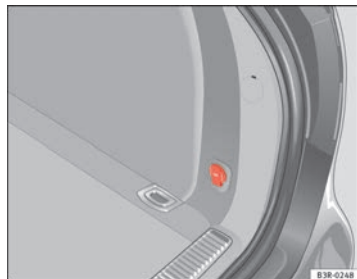

Fig. 136 Detailed view of the side trim in the luggage compartment: 12-volt socket
- Lift the power point cover ⇒ fig. 136.